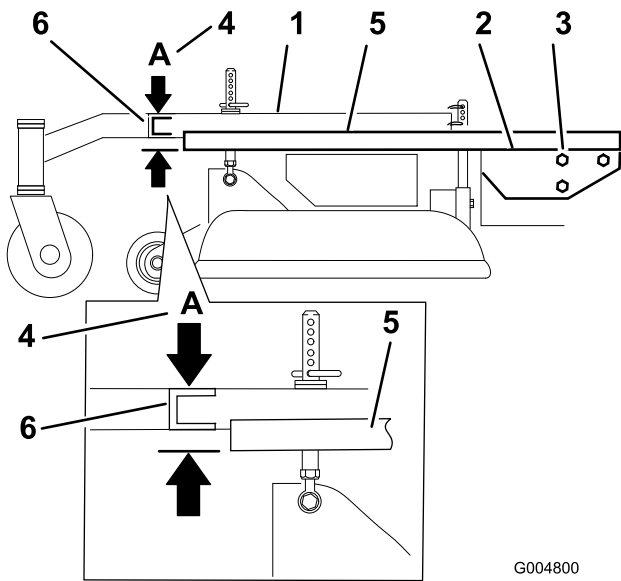

Figure 54
- Place a long straight edge on top of the engine deck as shown in Figure 54.
- At the carrier frame cross channel, measure the height at location **A** (Figure 54).
- Loosen the carrier frame mounting bolts on both sides of the machine (Figure 54).
- Align the carrier frame and engine deck to match 33 mm (1-5/16 inch), plus or minus 6 mm (1/4 inch) at location **A** (Figure 54).